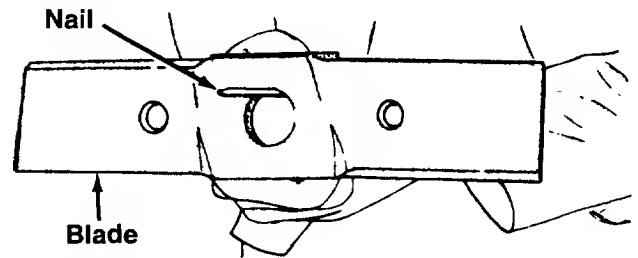

**FIGURE 15.**
- Lower the hopper assembly. Block up the housing. See figure 15.